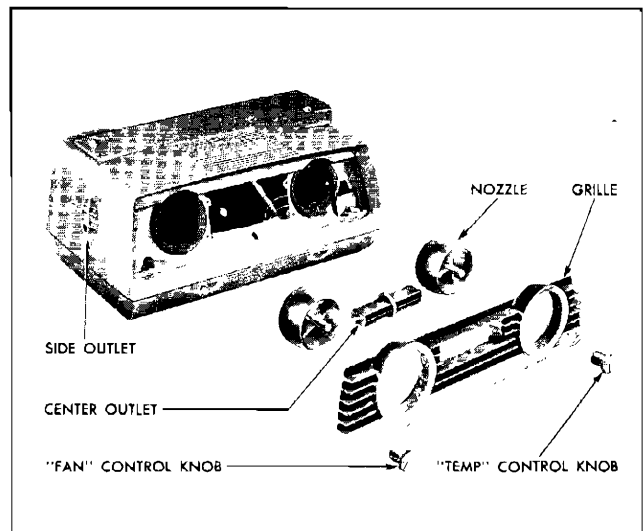

Fig. 7-34 Nozzles and Grille—Exploded View
3. Remove grille to gain access to nozzles and center outlet (Fig. 7-34).